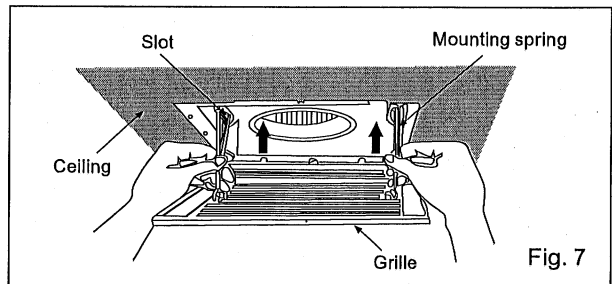

Fig. 7
9. Insert mounting springs into slots as shown and mount grille to fan body. (Fig.7)